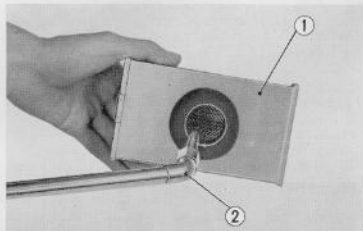

Fig. 4.71 Cleaning air cleaner
- ① Cap nut
- ② Air cleaner cover
2. Clean the element ① by first tapping lightly to loosen the dust and then blow off the dust by applying dry compressed air from the inside. (Fig. 4.71)